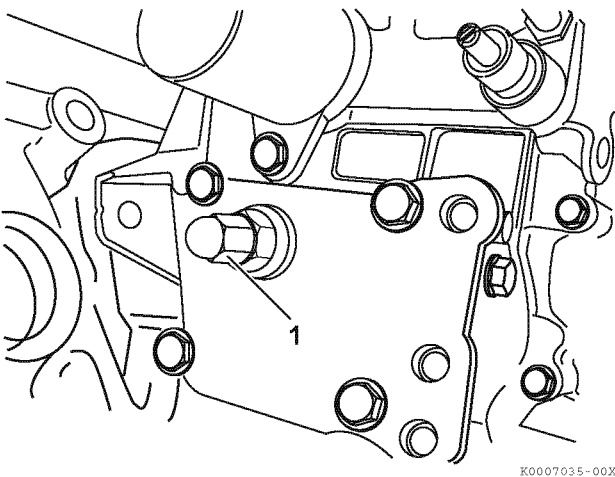

Figure 7-36
2. After the engine has reached operating temperature, remove the cap nut (1, **Figure 7-36**).